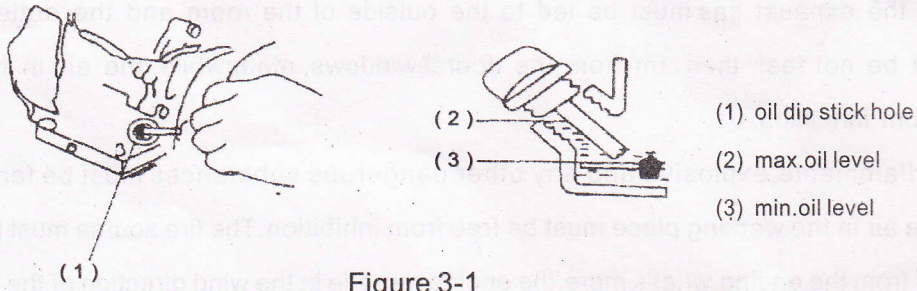

Figure 3-1
First stop the engine, then, check the engine oil level. Unscrew the oil dip stick to check whether the engine oil is within the range of specified limit. If the oil level is too low, add the engine oil till the specified height (see figure 3-1)
If the engine can not be started or starting is difficult, the engine should be checked or repaired. First, check whether the fuel oil system has oil. Place the throttle switch in (2) position, make the oil way with oil, then, unscrew the drain plug (3) to see whether the fuel oil flows out. After the fuel oil flowing out, tighten the plug (see figure.3-1). If no fuel oil flows out, check the fuel line carefully. Secondly, check the spark plug. Remove the spark plug cap, take out the spark plug, clean the carbon deposits and adjust the spark plug gap to specified value, then, restart the engine as per the starting methods mentioned ahead. If it can not be started yet, send it to the service station to repair. The users do not disassemble or assemble by yourselves.